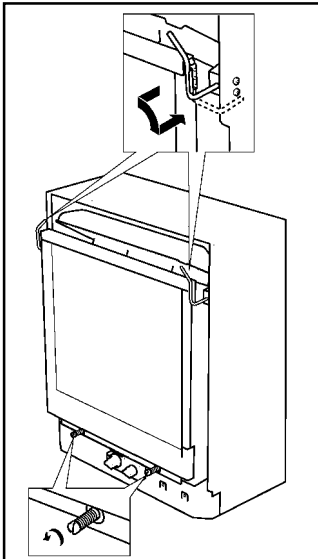

Figure 2
1. Release the top of the window by pulling forward and rotating outwards the two bars at the top corners. See figure 2.
2. Unscrew the two spring loaded bolts securing the bottom of the window. See figure 2.